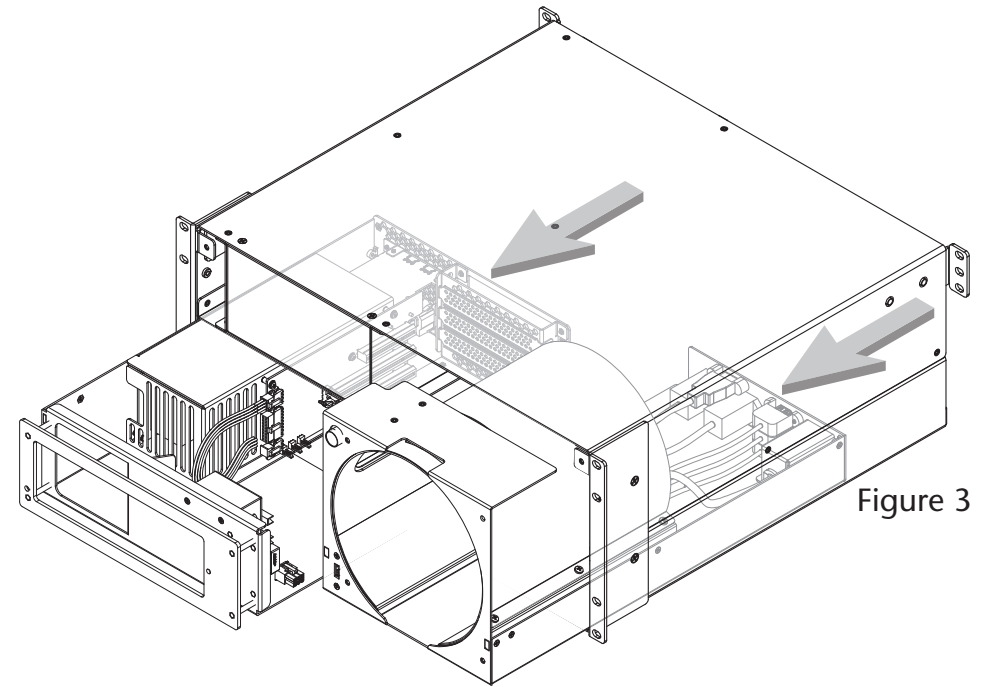

Figure 3
5. Gently pull out the computer mounting and PCIe card expansion modules through the front of the enclosure, and then set them aside (Figure 3).